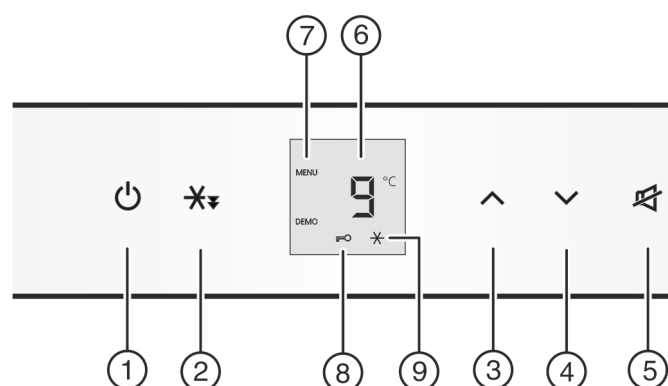

Fig. 2
- ▶ Press On/Off button Fig. 2 (1).
- ▶ To activate setting mode: Press and hold the SuperCool button *Fig. 2 (2)* for approx. 5 s.
- ▶ To switch on the child-proof lock, press the SuperCool button *Fig. 2 (2)* briefly.
- ▷ The child lock symbol *Fig. 2 (8)* shines. **c** flashes in the display.
- ▶ To switch off the child-proof lock, press the SuperCool button *Fig. 2 (2)* briefly.
- ▷ The child lock symbol *Fig. 2 (8)* goes out. **c** flashes in the display.
- ▶ To deactivate the set-up mode: press On/Off button *Fig. 2 (1)*.
- ▶ Press alarm button *Fig. 2 (5)*.
- ▶ For a higher temperature setting: press Up button *Fig. 2 (3)*.
- ▶ For a lower temperature setting: press Down button *Fig. 2 (4)*.
- ▶ Briefly press the Quick Cool button *Fig. 2 (2)*.
- ▷ The Quick Cool *Fig. 2 (9)* symbol lights up on the display.
- ▷ The Quick Cool *Fig. 2 (9)* symbol dims on the display.